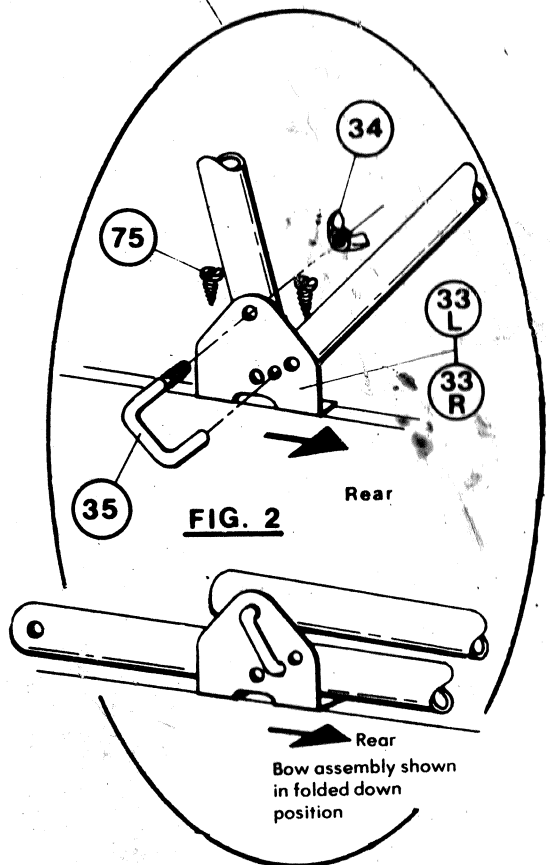

FIG. 2
4. Bolt the bows to the mounting brackets with U-bolts (No. 35) and wing nuts (No. 34), using the center of the three lower holes in the bracket. (See fig. 2.) The other two holes are to adjust the tightness of the top after it is installed. Make sure the large holes in the front bow are facing forward. Note that the bows will have to be sprung in to fit onto the brackets.
- 5) Unfasten at windshield and lay top down on vehicle body. (See figure 2)